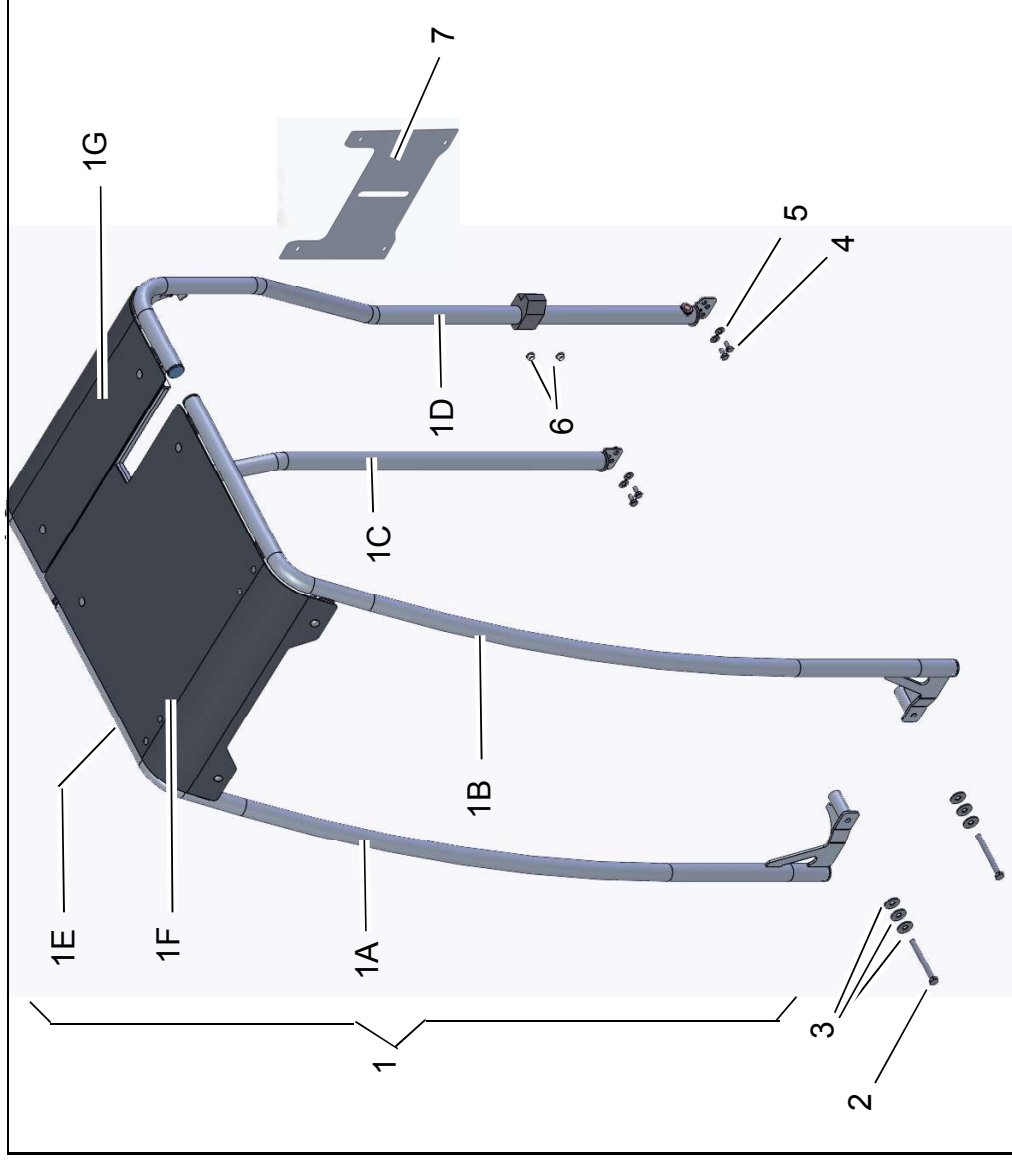

Fig. 1
- Right front bar (Fig. 1/1A)
- Left front bar (Fig. 1/1B)
- Right rear bar (Fig. 1/1C)
- Left rear bar (Fig. 1/1D)
- Frame (Fig. 1/1E)
- Front roof (Fig. 1/1F)
- Rear roof (Fig. 1/1G)